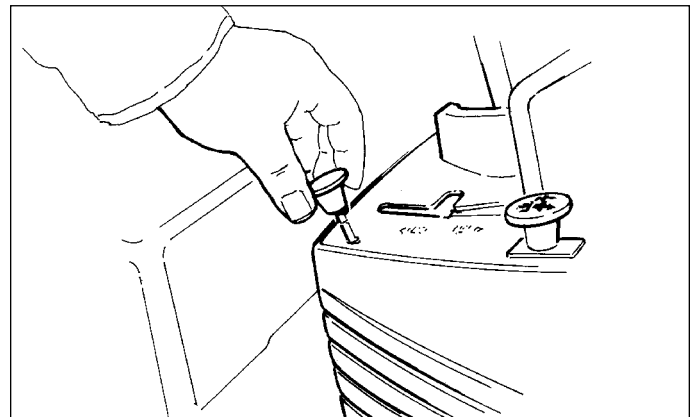

**Figure D-5. Remove Shift Lever Knob (Later Model With Rubber Knob)**
- b. Rubber knob - is pressed onto end of shift lever and may be removed by placing a 7/16" open end box wrench under the knob and tapping the wrench outward with a hammer or rubber mallet. (Figure D-5) Knobs that resist removal with this method may be heated with a heat gun or blow dryer to expand the I.D. of the knob slightly and separate it from the end of the shift lever.